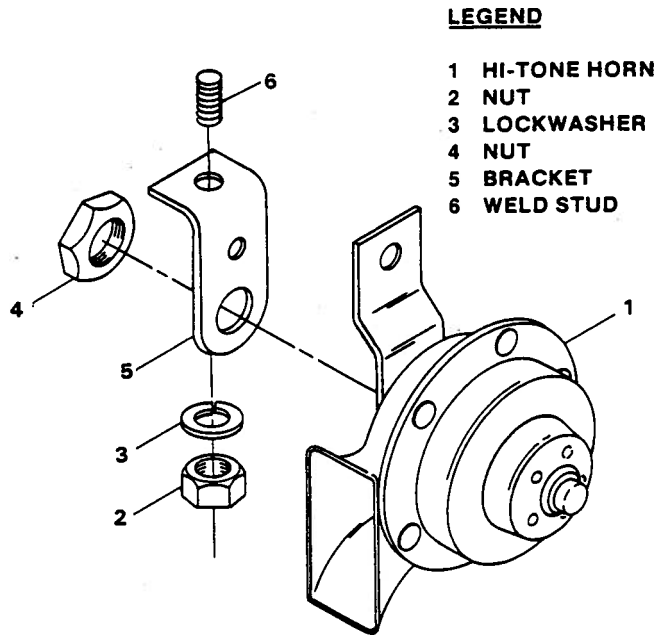

Figure 5-22. Hi-Tone Horn Assembly
5-34. REMOVAL. (See figure 5-22.)
- a. Tag and disconnect electrical leads to horn (1, figure 5-22).
- b. Remove nut (2) and lockwasher (3).
- c. Remove horn (1). If necessary, remove nut (4) to replace bracket (5).